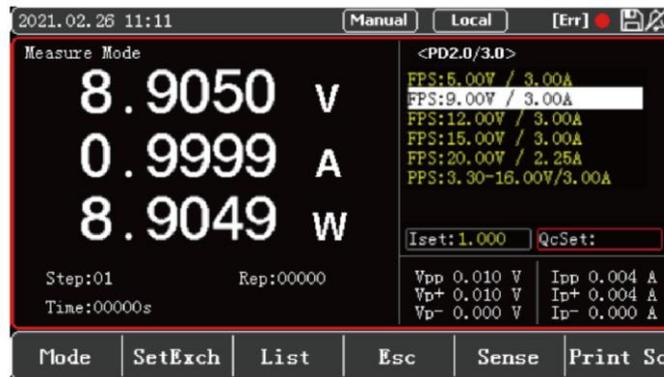

Figure 5-4-1 <PD2.0/3.0> Setting and Display Interface
If the handshake is successful, the status will be displayed as [OK], as shown in the upper right corner of Figure 5-4-1, otherwise it will be displayed as [Err].
- For fixed voltage point FPS and other types, as shown in Figure 5-4-1, after selecting